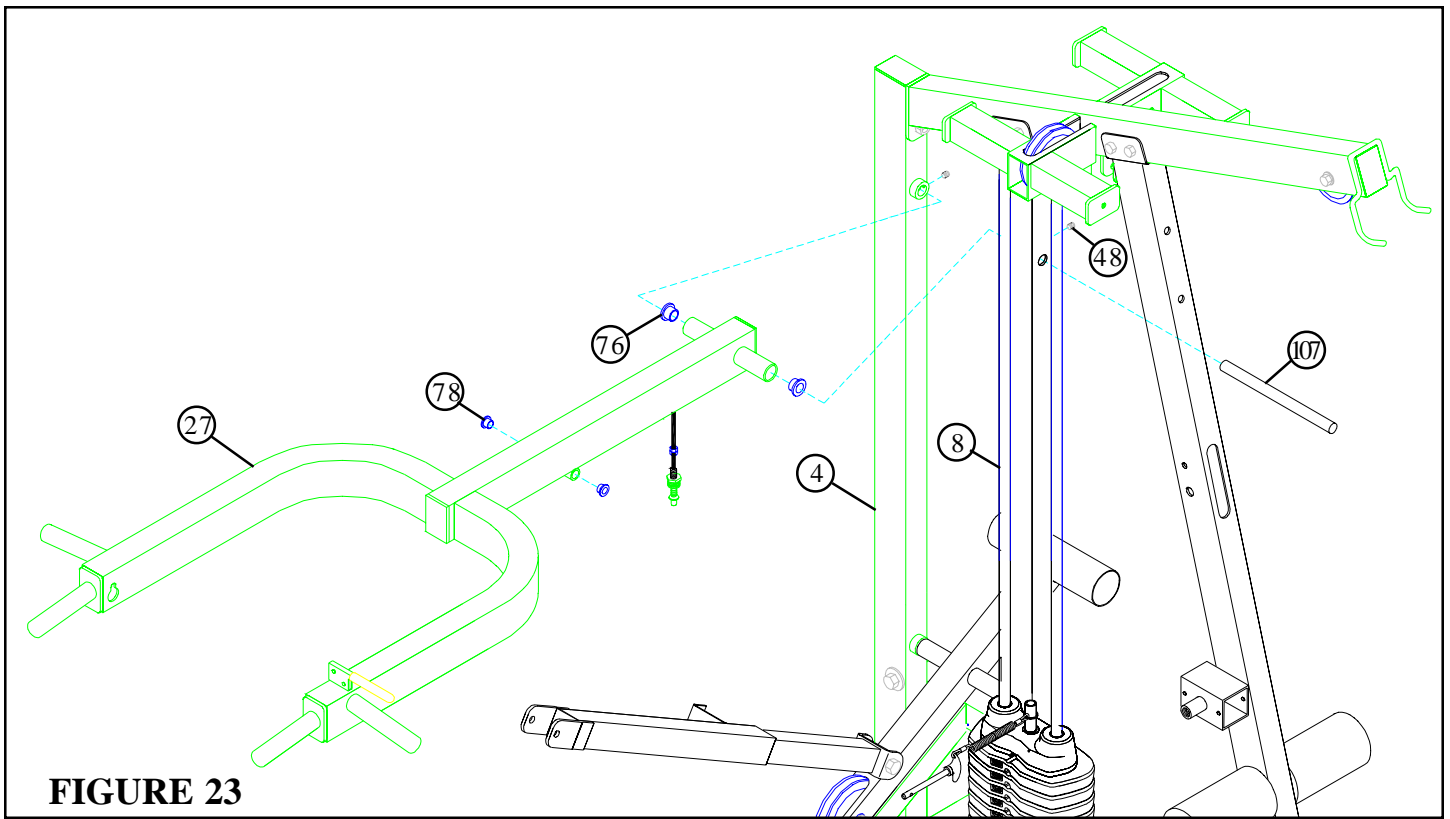

FIGURE 23
- Insert two 3/4" FLANGE BEARINGS (76) into the PRESS ARM (27) as shown in FIGURE 23.
- Hold the PRESS ARM (27) between the REAR (4) and MIDDLE UPRIGHTS (8) and slide the 3/4 DIA X 11" SHAFT (107) through the MIDDLE UPRIGHT (8), PRESS ARM (27), and through the collar on the REAR UPRIGHT (4). To **SECURE** the SHAFT (107) in place, insert two 5/16" SET SCREWS (48) into the collars on the UPRIGHTS and tighten. See FIGURE 23.
- Insert two 1/2" FLANGE BEARINGS (78) into the PRESS ARM (27) as shown in FIGURE 23.